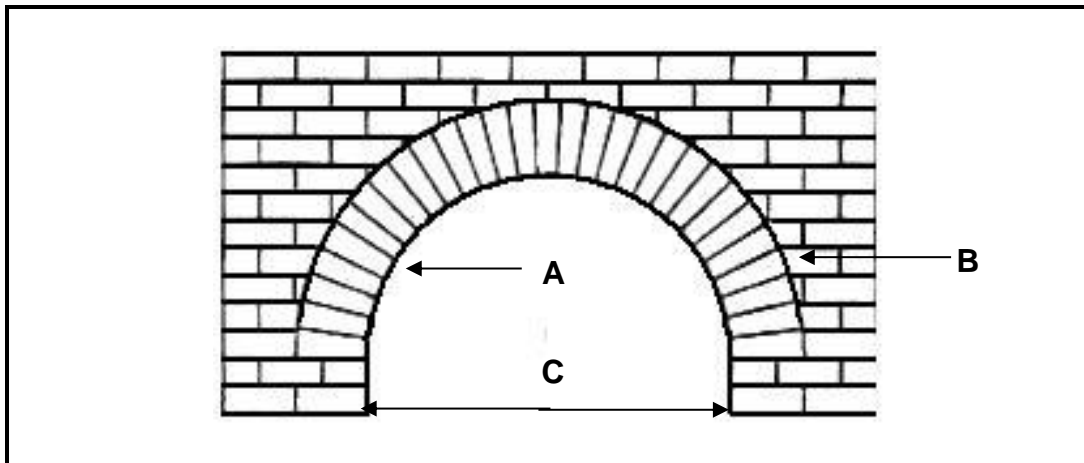

FIGURE 5.10
5.10 Answer the questions with regard to the arch in FIGURE 5.10.